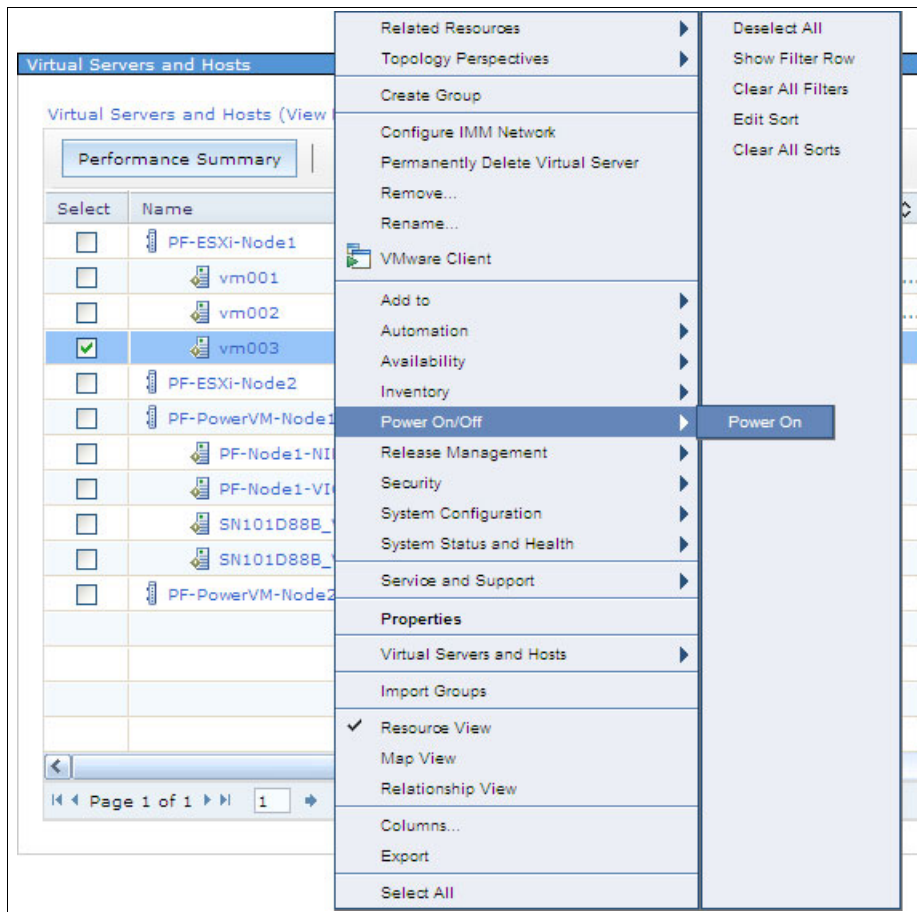

Figure 11-20 Power On menu item for selected virtual server
20. Return to the Virtual Servers and Hosts view to power on the newly created virtual server. Select **vm003**, and click **Actions** → **Power On/Off** → **Power On**, as shown in Figure 11-20.